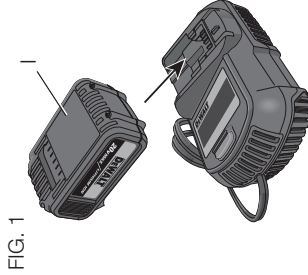

FIG. 1
Charging Procedure (Fig. 1)
2. Insert the battery pack (I) into the charger, as shown in Figure 1, making sure the pack is fully seated in charger. The red (charging) light will blink continuously, indicating that the charging process has started.